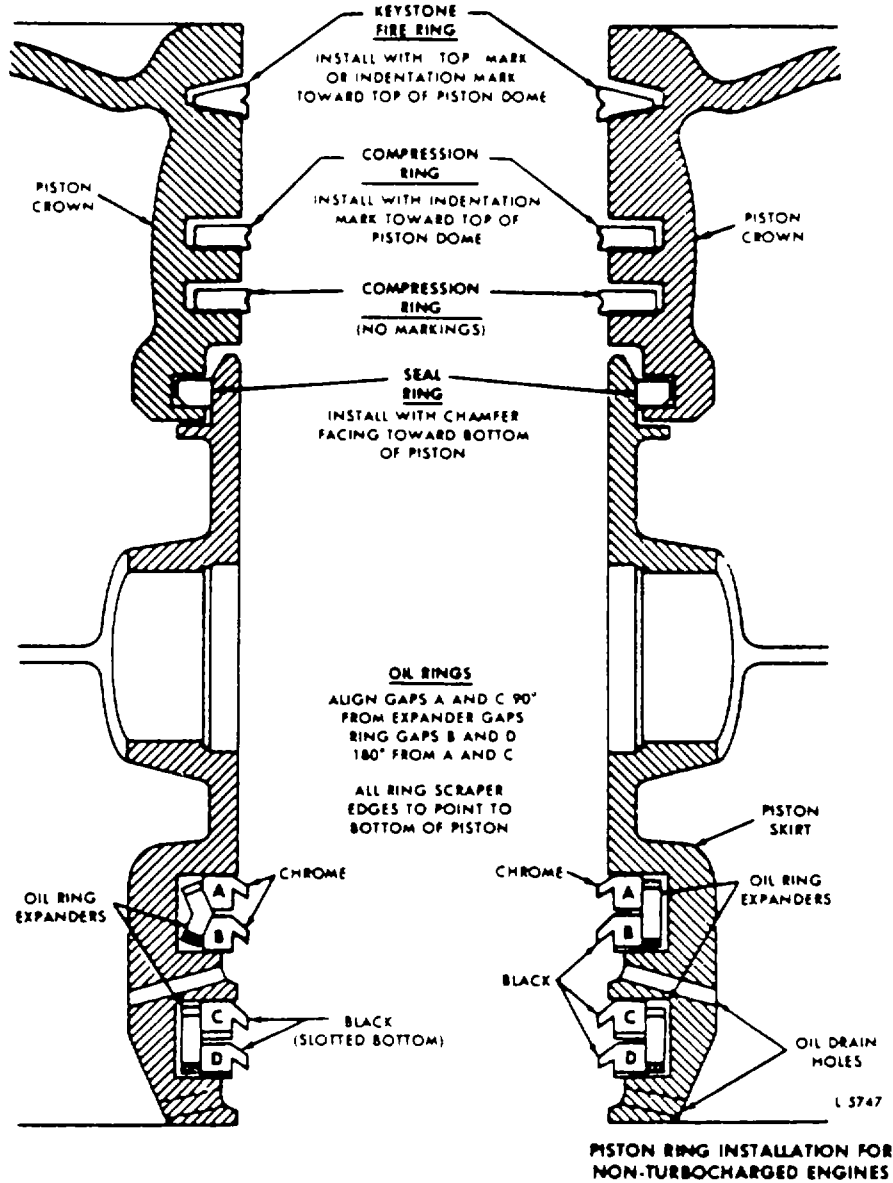

Figure 4-35 . Piston Ring Installation Instructions .
(21) Starting with the bottom ring, install compression rings with tool J8128. To avoid breaking or overstressing rings, do not spread them any more than necessary to slip them over the piston. Refer to figure 4-35 for ring identification and location.
(22) Stagger the ring gaps around the piston.
(23) Install ring expanders in oil control ring grooves in piston skirt. When installing oil control rings, use care to prevent overlapping ends of ring expanders. An overlapped expander will cause the oil ring to protrude beyond allowable limits and will result in breakage when piston is inserted in ring compressor during installation in cylinder liner. Do not cut or grind ends of expanders to prevent overlapping. Cutting or grinding the ends will decrease the expanding force on the oil control rings and result in high lubricating oil consumption.
(24) Install oil control rings by hand. Start with the upper half of the top oil ring and align the gaps as indicated in figure 4-35.